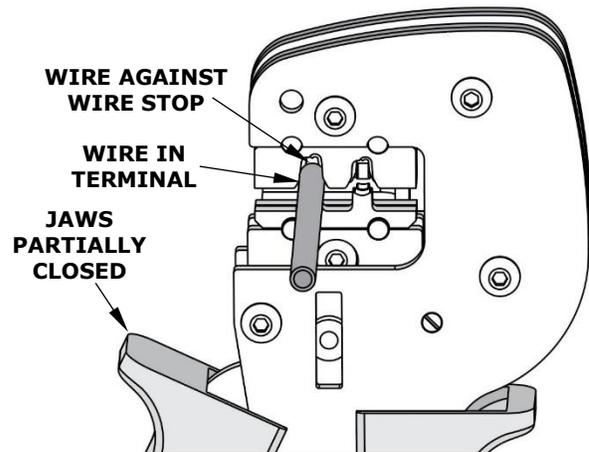

Figure 6
5. Gently touch the wire stop with the end of the wire. See Figures 6 and 7.